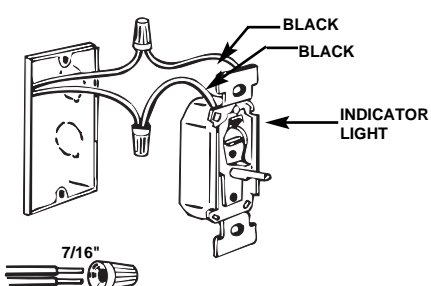

FIG. 2 Wiring Model EJ351
3. **MODEL EJ351 TIMER** (See Fig. 2) Disconnect wires from old switch and connect them to the Timer. Use wire nuts provided. If old switch has ground wire (normally